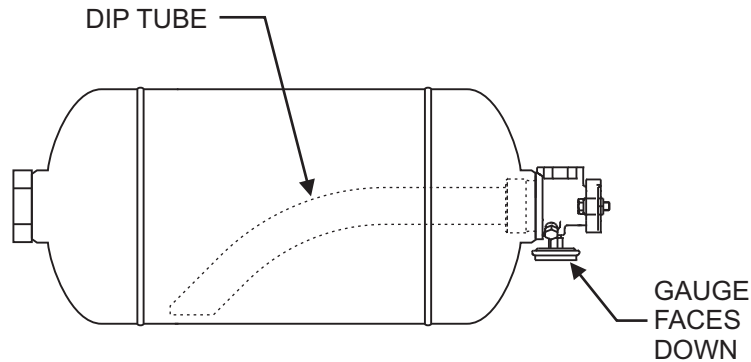

Figure 6-1. KVS-25H Horizontal Mounting
1. For KVS-25H, if mounted horizontally, ensure the correct orientation of cylinder and valve as shown in Figure 6-1 (gauge downward).